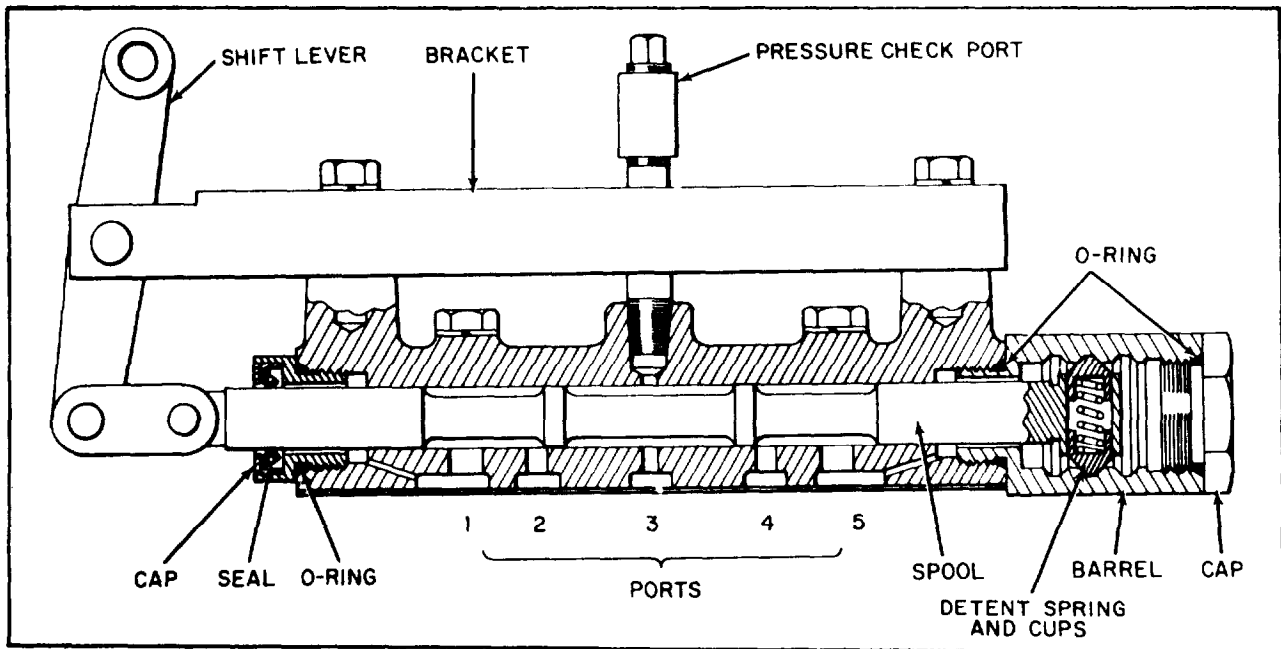

FIGURE 7-46.
**7-45. FORWARD-REVERSE CONTROL VALVE (SW figure 7-46).**